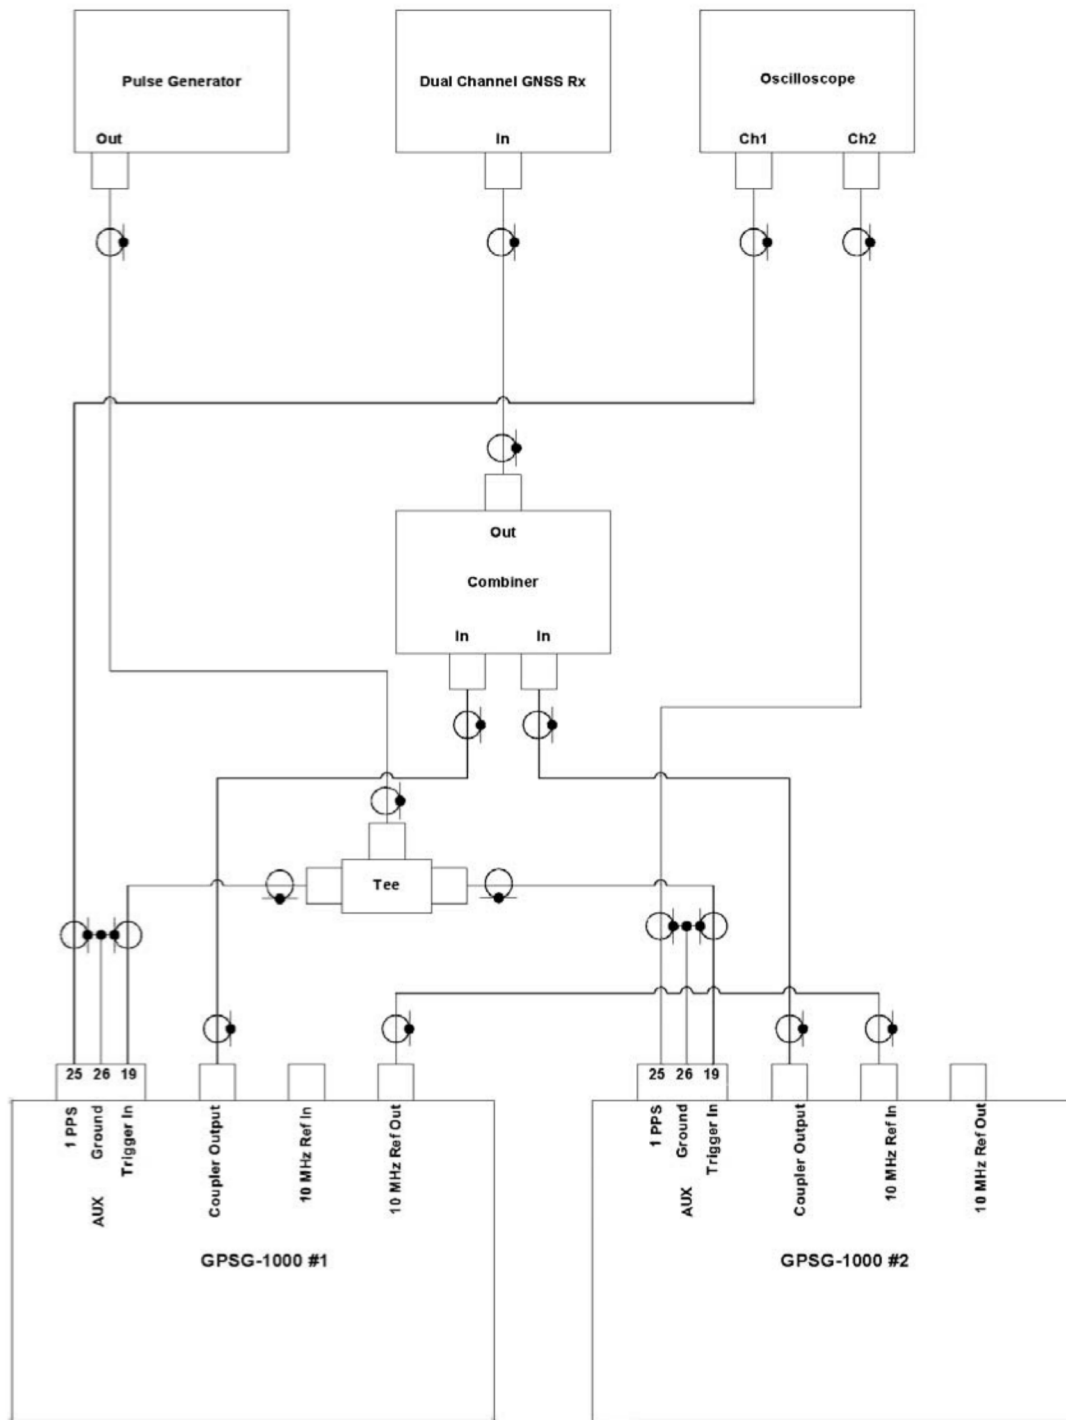

Figure 1
See Figure 1 for equipment interconnection. The interface cables for the AUX connectors on the GPSG-1000 units will be locally fabricated.
2. Set up and connect equipment as per Figure 1. Ensuring that the cables used to connect the pulse generator to the GPSG-1000 units and the 1PPS output of the GPSG-1000 units to the Oscilloscope are equal length ($\pm 3''$).
- Verify the GPSG-1000 units' connections and interface as per Figure 1.
- Set the Oscilloscope, connected as per Figure 1, to measure the leading edges of the 1 PPS signal from both GPSG-1000 units. Note the difference between the points that both 1 PPS signals begin to rise from their 0 VDC states. The time difference should be less than 10 nSec.